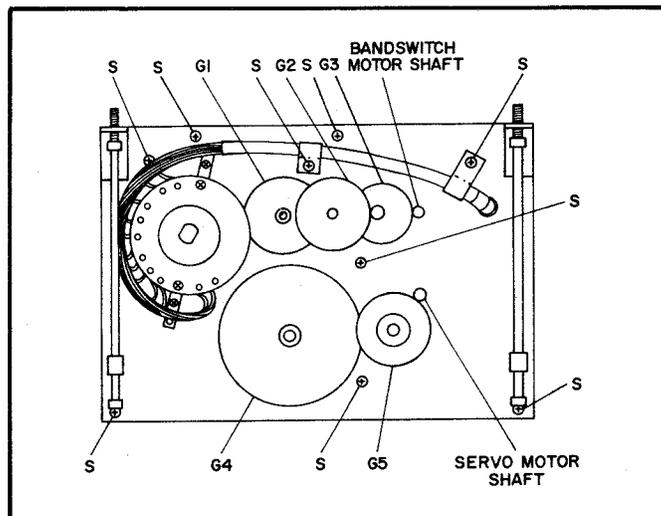

Figure 6-25. Power Amplifier Module A11, Gear Arrangement Diagram
- a. Refer to figure 6-25. Remove top cover plate from the module by loosening 17 screws on cover, sliding it toward the gear plate, and lifting it off.
- f. Unsolder two wires connected to tune power resistor assembly, R42 and R43. Remove nine screws (S) from gear plate.